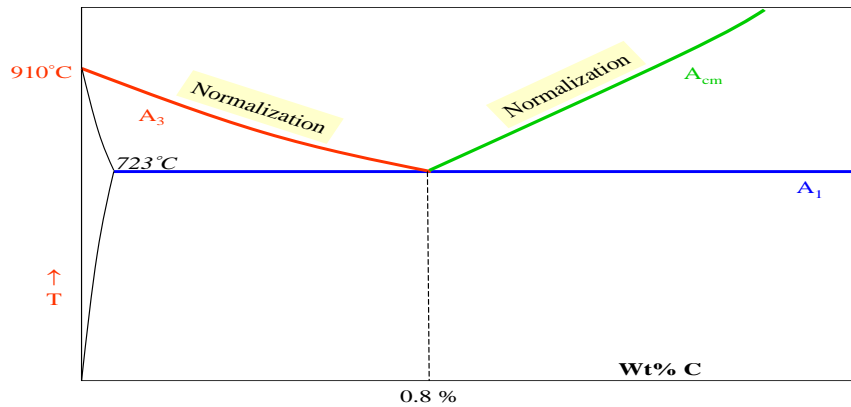

Fig.7. shows the normalizing place
- The sample is heat above A_3 | A_{cm} to complete Austenization. The sample is then air cooled to obtain Fine pearlite. Fine pearlite has a reasonably good hardness and ductility. See below fig.7.